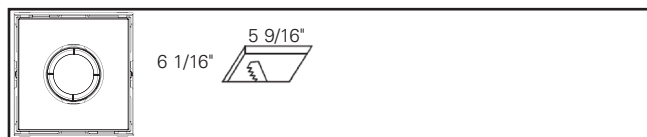

Figure 1.9.
- 1 Light: 5 9/16" X 6 1/16" (Figure 1.9)
2a. Refer to figures 1.9, 1.10, 1.11, 1.12 respectively for applicable ceiling cut-out dimensions for the multi-head being installed.